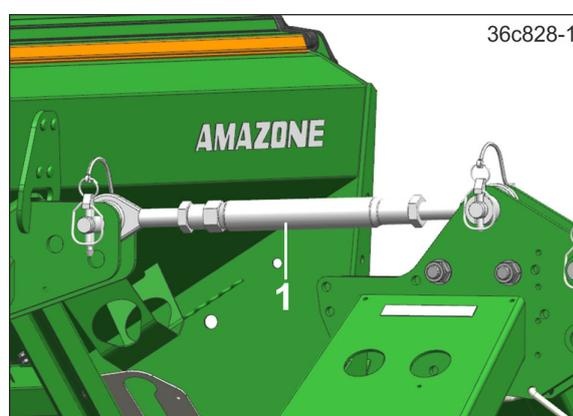

Fig. 137
11. Remove the top link (Fig. 137/1).